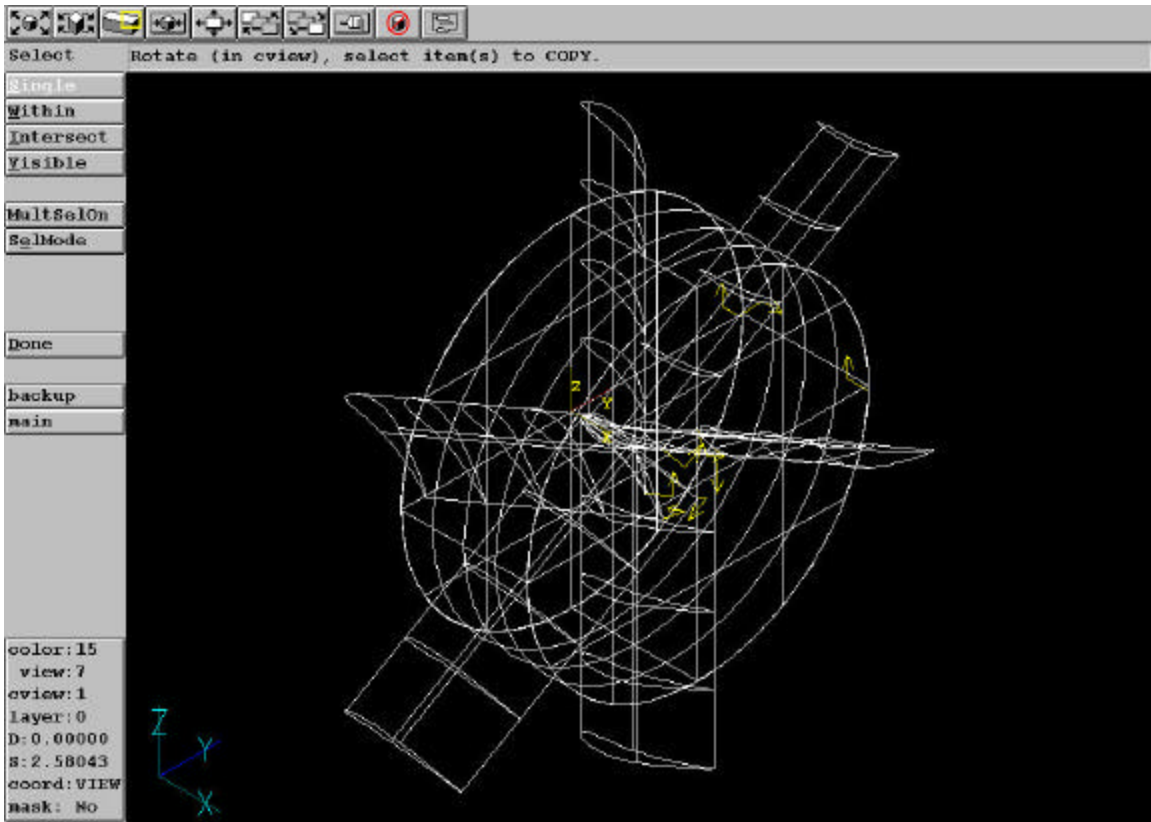

Figure 37: Turbine with arrayed blades
- 7.) For the number of blades to copy, enter 5 (6 total blades, one is already on the screen). Click ACCEPT. The blades should rotate about the hub, and produce a screen like figure 37.